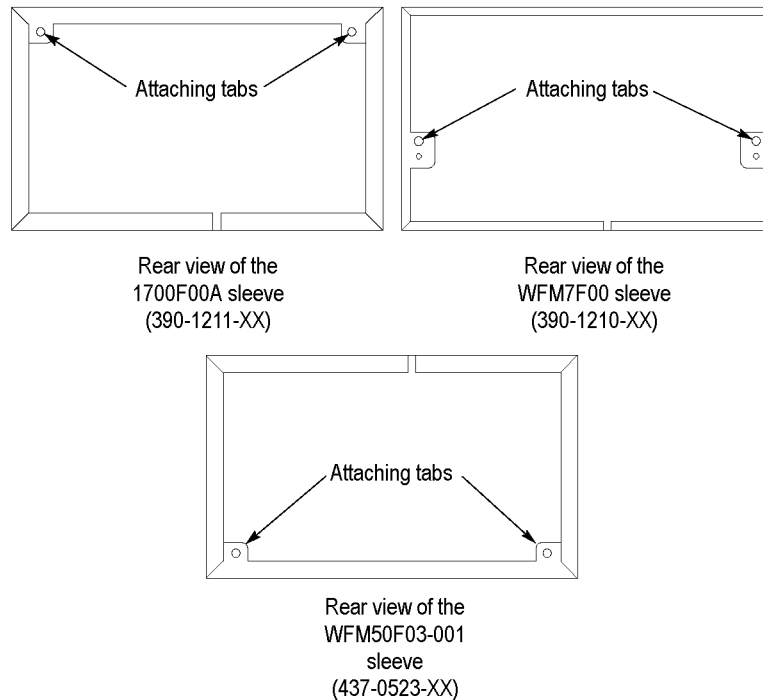

Figure 9: Rear view of three sleeves, showing the attaching tabs and screws
1. Refer to the figure to choose the appropriate sleeve in which to install your instrument. (See Figure 9.)
- The WFM7F00 sleeve (Tektronix part number 390-1210-XX) and the WFM50F03-001 sleeve (Tektronix part number 437-0523-XX) are designed for the WFM4000 and WFM5000. (See Figure 9.)
- The 1700F00A sleeve (Tektronix part number 390-1211-XX) is designed for 1700 Series, WFM601 Series, older half rack instruments, 760A, and 764. The rear panel attaching tabs on this sleeve are closer to the top of the rear frame. (See Figure 9.)
- For the WFM7F00 and WFM50F03-001, insert the screws through the rack adapter, through the tabs on the sleeve, and then into the instrument rear panel. (See Figure 9.)
- For the 1700F00A, insert the screws through the holes on the top right and left of the sleeve and into the instrument rear panel. (See Figure 9.) The screws do not attach to the rack adapter; this sleeve is held in place by the button on the inside front of the rack adapter.